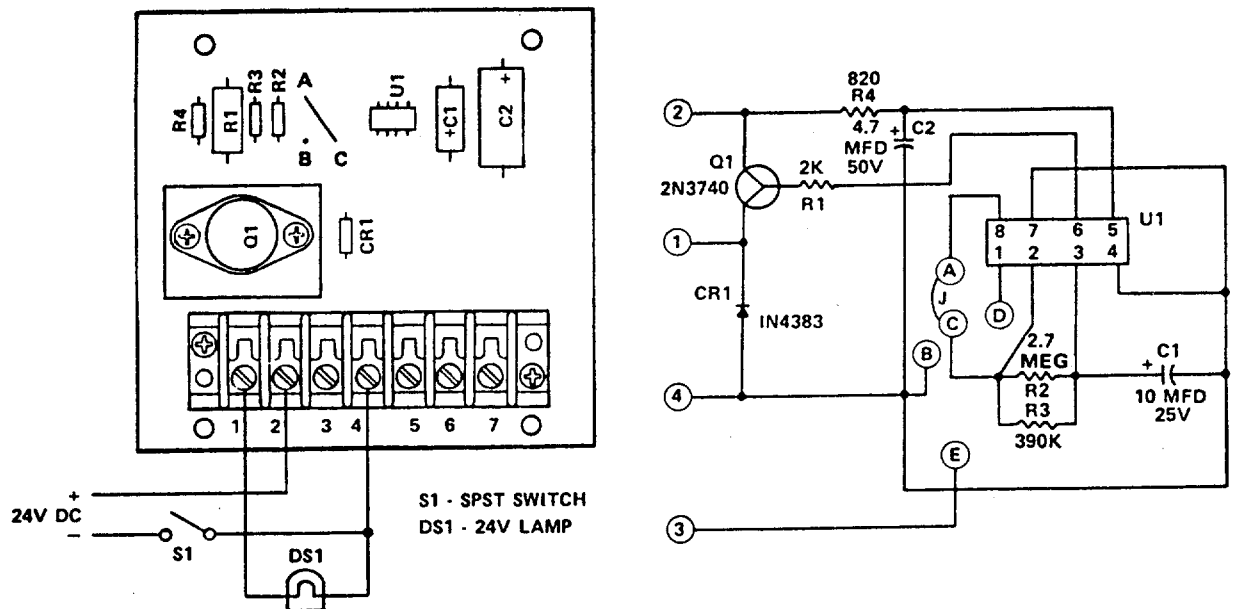

Figure 5-14. Time Delay TD2, Test Setup
- (1) Tests for Replacement Components. Check the following components on TD 2, figure 5-14.
- (2) Test of TD2.
- (a) Connect time delay circuit as shown in figure 5-14.
- (3) Repair. If any of the replaceable components tested in 1 (above) are defective, TD2 is repairable by replacing the defective component. If the printed circuit wiring or a terminal
- (b) Remove screws (83) to remove assembly (87) with brackets (84).